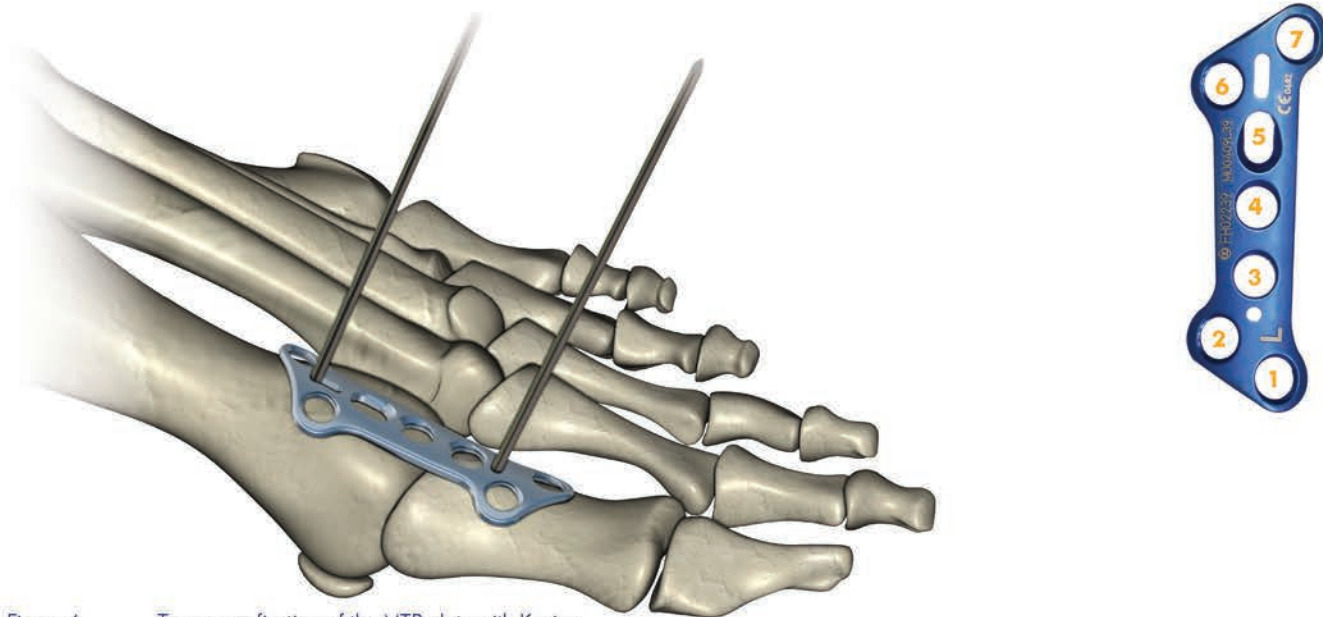

Figure 4 Temporary fixation of the MTP plate with K-wires
The MetaFix™ MTP plate is placed dorsal on the bone, if necessary, adjusted by bending and temporarily fixed with K-wires (DIA. 1.4 mm 70 mm length). The K-wire is placed proximal to the proximal end of the K-wire slot (Figure 4). The compression slot hole (5) of the plate should be in the range of the first metatarsal. Subsequently, the plate and the toe bones are adjusted. This can be fixed temporarily with another K-wire distal to the plate.